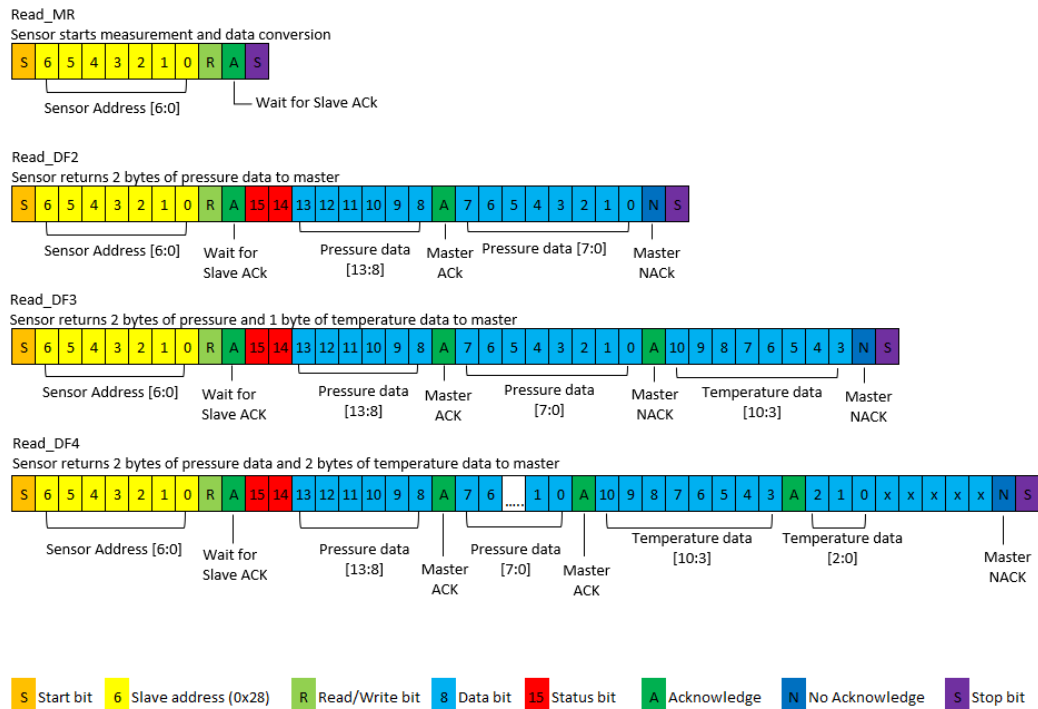

Fig. 5
The sensor functions as the slave and issues an acknowledgment (ACK) to signify success. The sensor encompasses four I²C read commands: Read_MR, Read_DF2, Read_DF3, and Read_DF4. The structure of the measurement packet for these four I²C read commands is illustrated in Figure 5.
For Data Fetch commands, the sensor determines the number of data bytes to return when the master issues a NACK and stop condition. In the case of the Read_DF3 data fetch command (Data Fetch 3 Bytes; illustrated in Figure 5), the sensor responds to the master's transmission of the slave address and the READ bit (1) by returning three bytes. These include two bytes of pressure data with the two status bits as the most significant bits (MSBs) and then 1 byte of temperature data (8-bit accuracy).